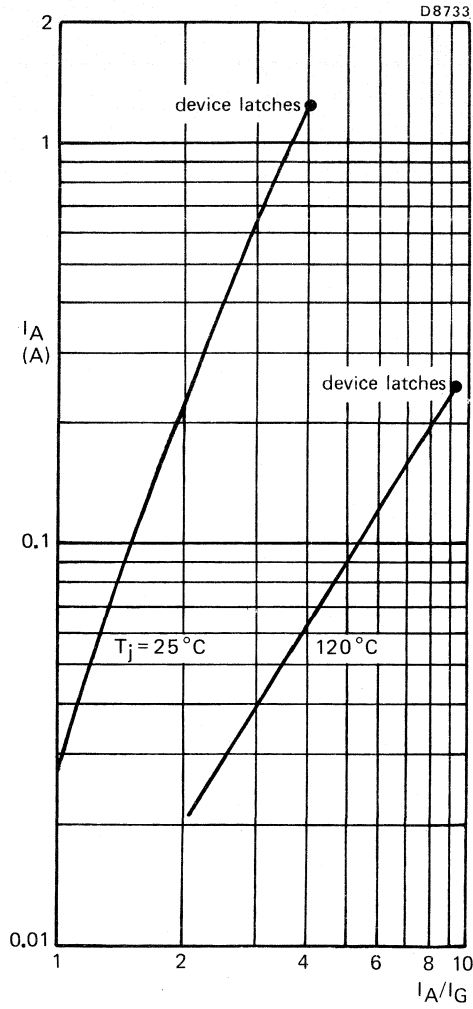

Fig.8 Typical latching behaviour
** Below latching level the device behaves like a transistor with a gain dependant on current; see Fig.8.